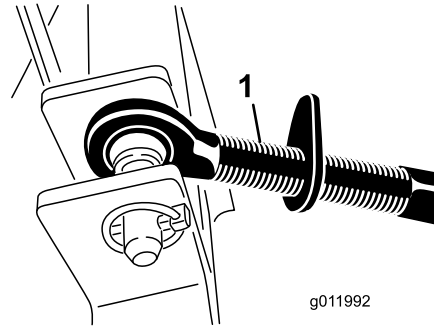

Figure 5
1. Connect the upper link to the holes in the blower bracket and secure it with a clevis pin and lynch pin (Figure 5).
4. At the shortest length of the shaft, the 2 halves of the PTO shaft must have at least 37 mm (1-1/2 inches) of additional clearance to collapse (Figure 5).